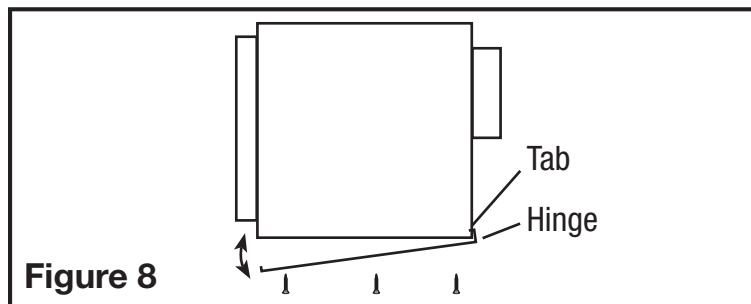

Figure 8
1. This unit includes a hinged access panel. This allows access to the interior of the fan once installed. To access the interior, unscrew the screws holding the panel in place (Figure 8).